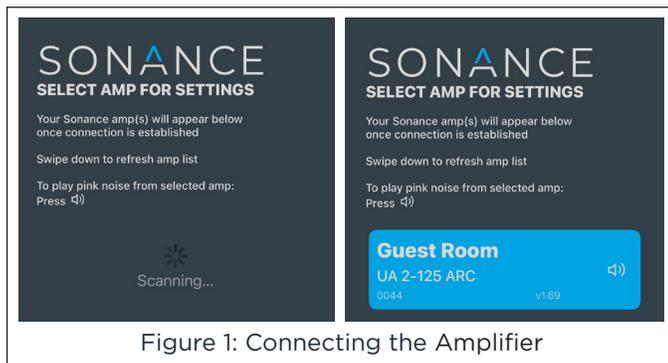

Figure 1: Connecting the Amplifier
4. When multiple amplifiers are displayed on the page, pressing the sound icon in the blue amp tile will trigger the amplifier to send pink noise signal to the speakers to help identify (see Figure 1).